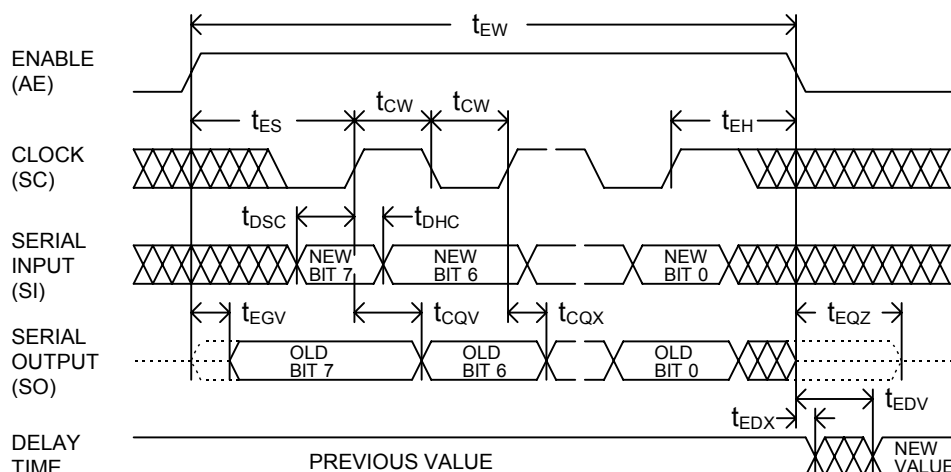

Figure 4: Serial mode (MD=0)
While observing data setup (t_{DSC}) and data hold (t_{DHC}) requirements, timing data is loaded in MSB-to-LSB order by the rising edge of the clock (SC) while the enable (AE) is high, as shown in **Figure 4**. The falling edge of the enable (AE) activates the new delay value which is reflected at the output after a settling time t_{EDV} . As data is shifted into the serial data input (SI), the previous contents of the 8-bit input register are shifted out of the serial output port pin (SO) in MSB-to-LSB order, thus allowing cascading of multiple devices by connecting the serial output pin (SO) of the preceding device to the serial data input